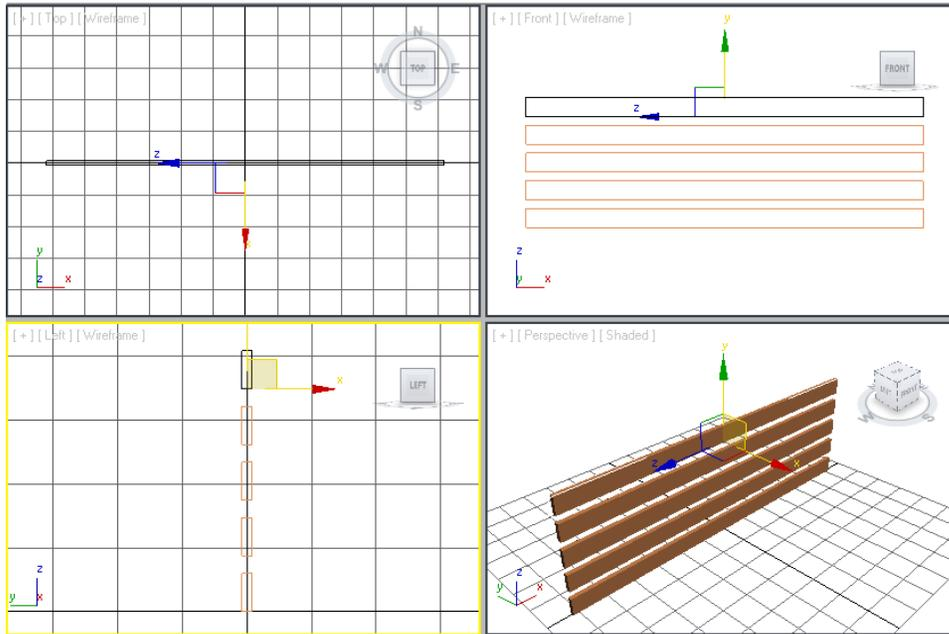

Figure 2-58 Horizontal back supports displayed in viewports
- Choose the **Zoom Extents All** tool from the viewport navigation controls; the horizontal back supports are displayed in viewports, as shown in Figure 2-58.